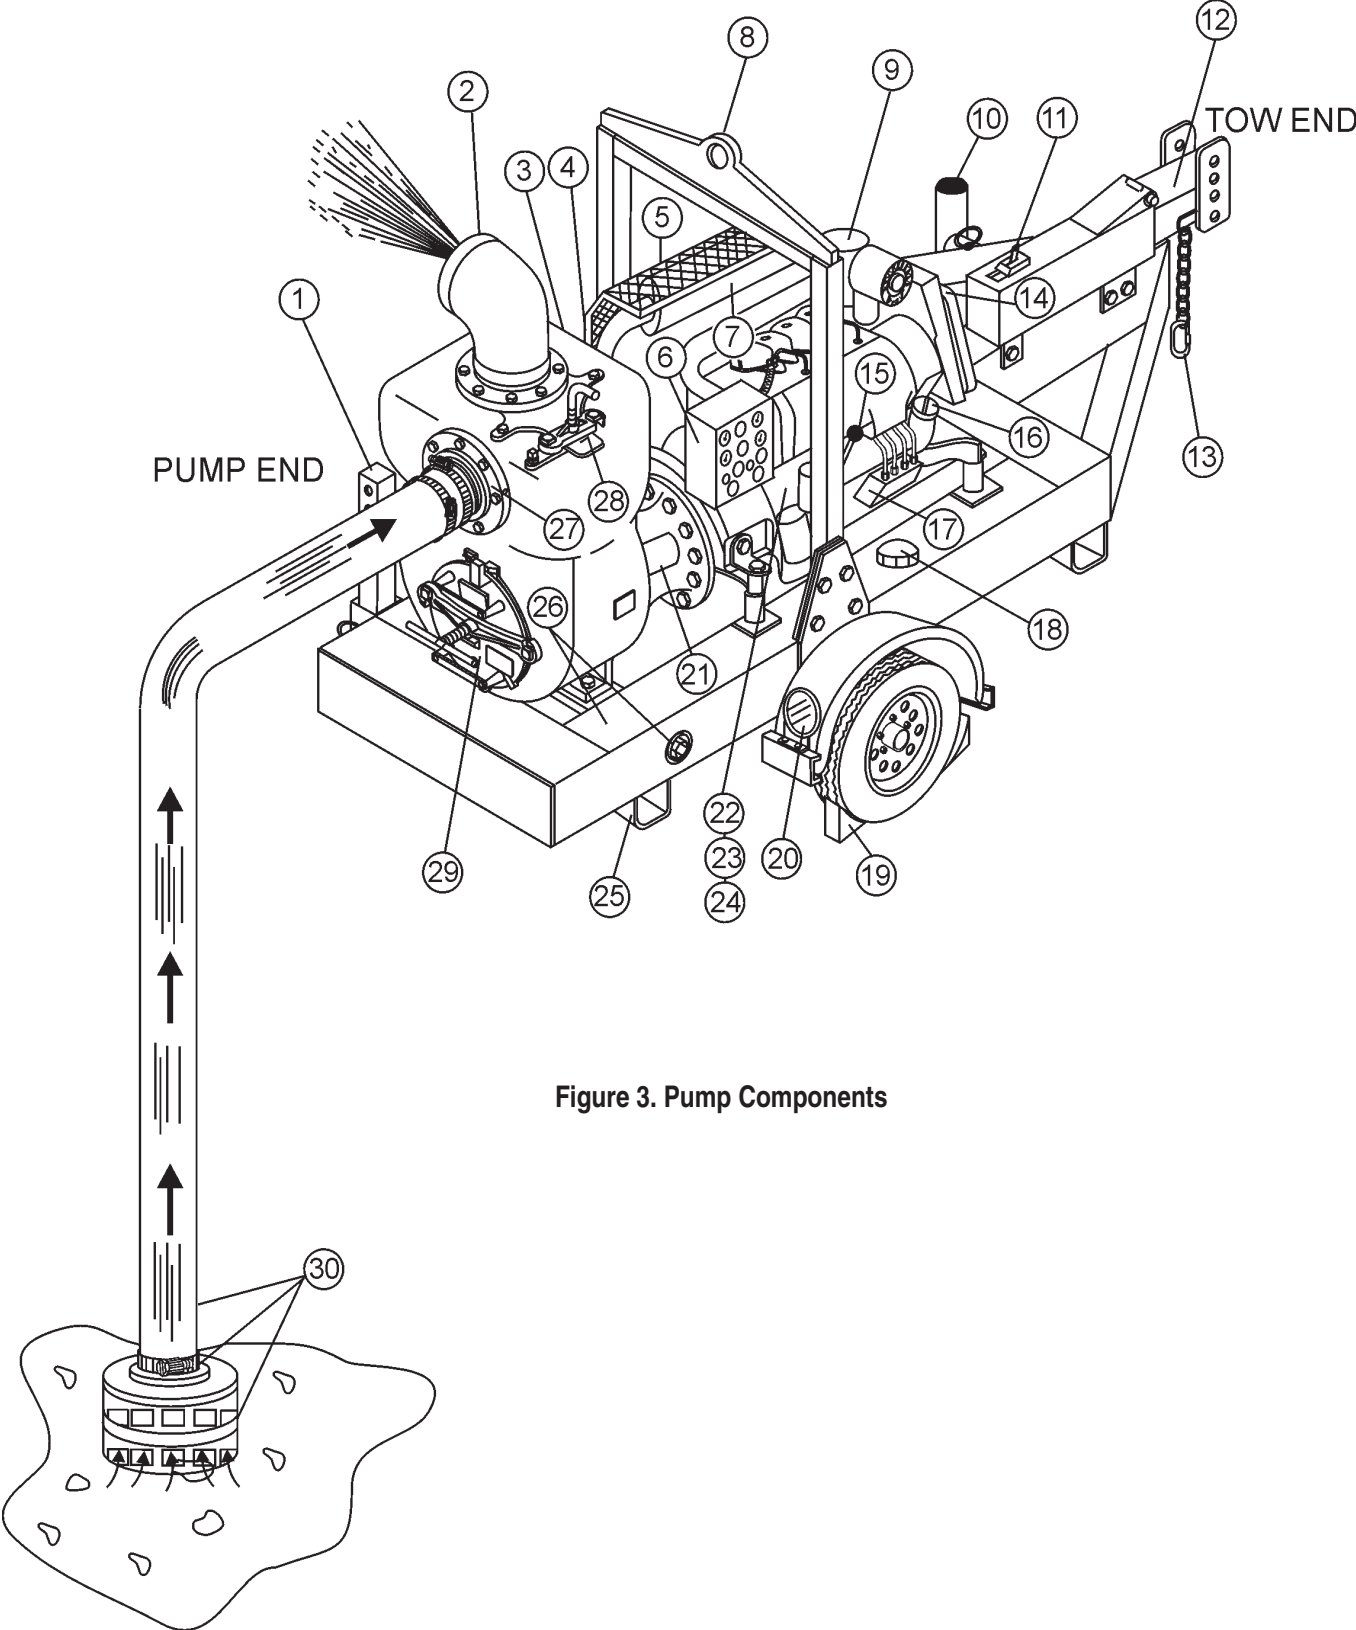

Figure 3. Pump Components
Figure 3 shows the location of the components and basic components for the MQ600TD80 trash pump, The function of each component or control is described below:
3. To prime pump, remove fill cap (Figure 3) and fill pump case with water. If the pump case is not filled with water before starting, it will not begin pumping.
1. Check that all hoses are **securely** attached to the pump. Make certain suction hose (Figure 3) does not have any air leakage. Tighten hose clamps and couplings as required.
4. Check that the **discharge** hose (Figure 3) is not restricted. Place hose so that it lays as straight as it is possible on the ground. Remove any twists or sharp bends from hose which may block the flow of water.
6. Make sure the **suction strainer** (Figure 3) is clean and securely attached to the water end of the suction hose. The strainer is designed to protect the pump by preventing large objects from being pulled into the pump.